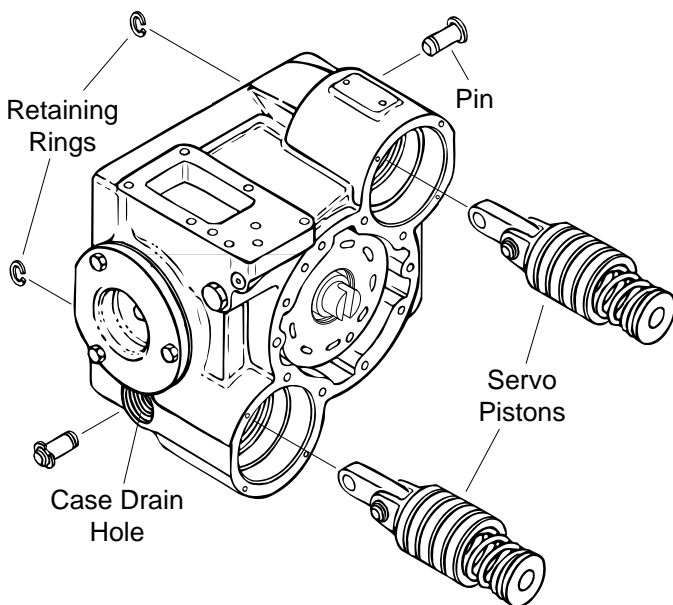

Figure 18
**64** Install the servo pistons. Line up the servo piston links and install the pins through the case drain holes as shown in figure 18.